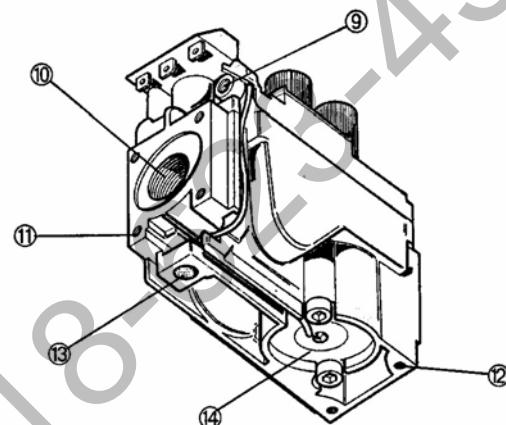

Figure 13
Pressure Measurements: To measure the gas pressures, connect a manometer to the gas inlet tap (6) and manifold pressure tap (7) in Figure 13.
The pilot light is preset by the manufacturer and should not need adjustment. The pilot light flame must be large enough to engulf the thermopile and thermocouple located next to the pilot, but not so large as to create excessive noise or consume excessive gas. (refer to figure 13) However, it can be adjusted by means of the pilot light adjustment screw located on the gas control valve. Open the valve door to access the pilot adjustment screw. Note that the pilot flame must engulf the thermopile so that the thermopile can generate sufficient millivoltage (325 to 500-mv) to power the millivolt gas control valve.